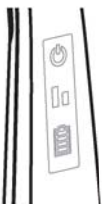

Fig.9
- When the vacuum has reached full charge (100%), the battery charge indicator will remain lit with four (4) bars illuminated for 3 seconds then go to dormant mode with no illuminated lights showing. (Fig.9)